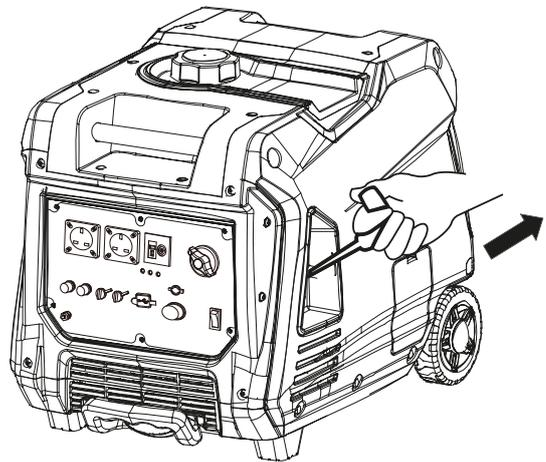

Figure 9: Pull the Recoil Handle out from Inverter
6. Firmly grasp and pull the recoil handle slowly until you feel increased resistance. At this point, apply a rapid pull while pulling out from the inverter (see Figure 9).